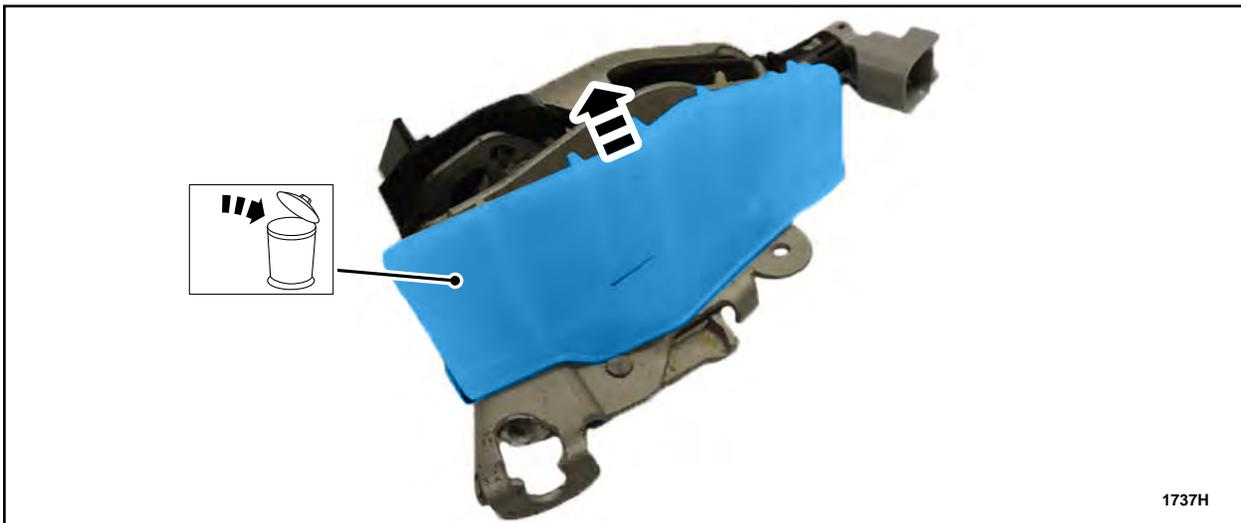

FIGURE 104
NOTE: Some F-150 SuperCab vehicles may be equipped with a smaller water shield than what is being installed in this program. The smaller shields must be removed and replaced. See Figure 104.
7. If equipped with small water shields, remove and discard the existing lower door latch water shields. See Figure 104.